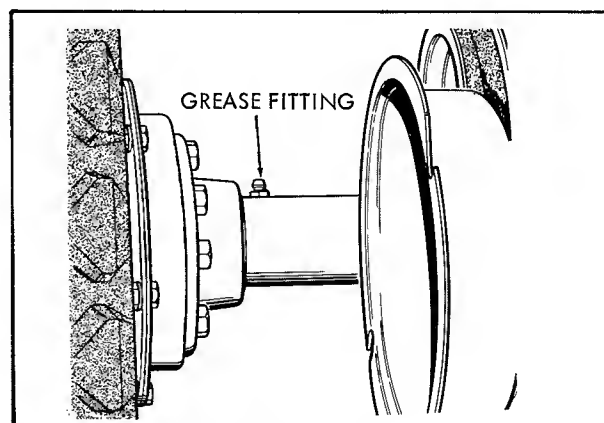

Fig. 7
- (1) Rear Axle Tube - figure 7